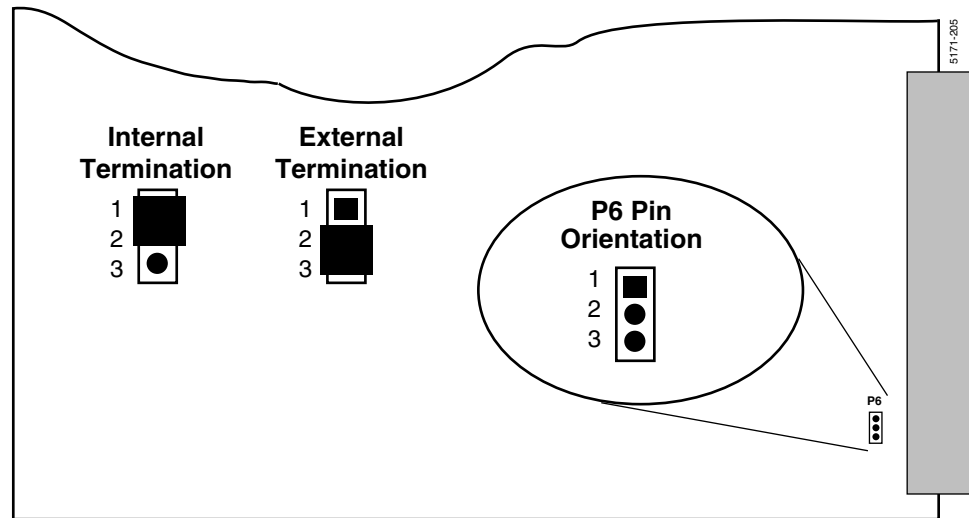

Figure 2-67. Diplexer Input Module's 75 Ohm Termination Jumper Location
- Or, you may set the Termination jumper (P6) on the Diplexer Input module in the enable position. Refer to Figure 2-67 for the P6 jumper location.